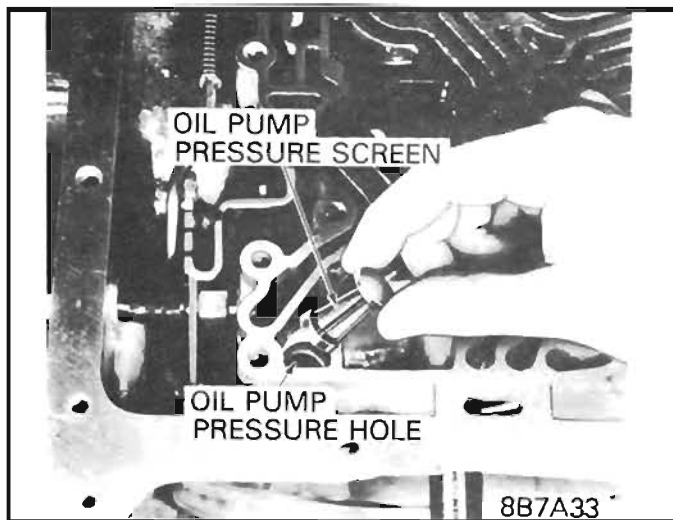

Figure 109 Pump Screen
4. Install oil pump pressure screen in the oil pump pressure hole in case. Open end of screen must be installed toward case face. See Figure 109. (Clean before installing)